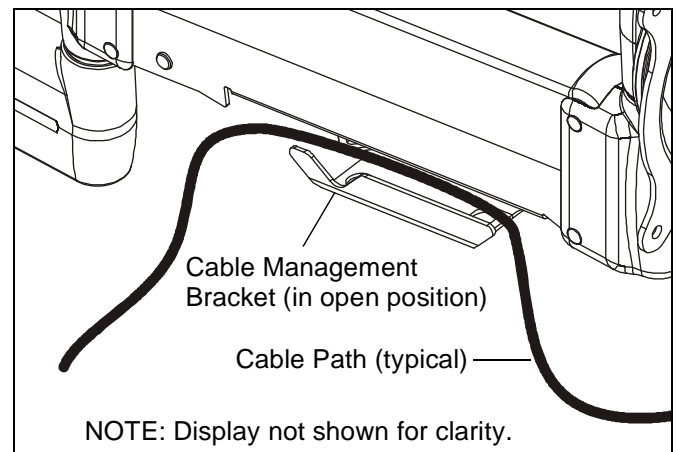

Figure 10:
3. Carefully insert cables into bracket (See Figure 10).